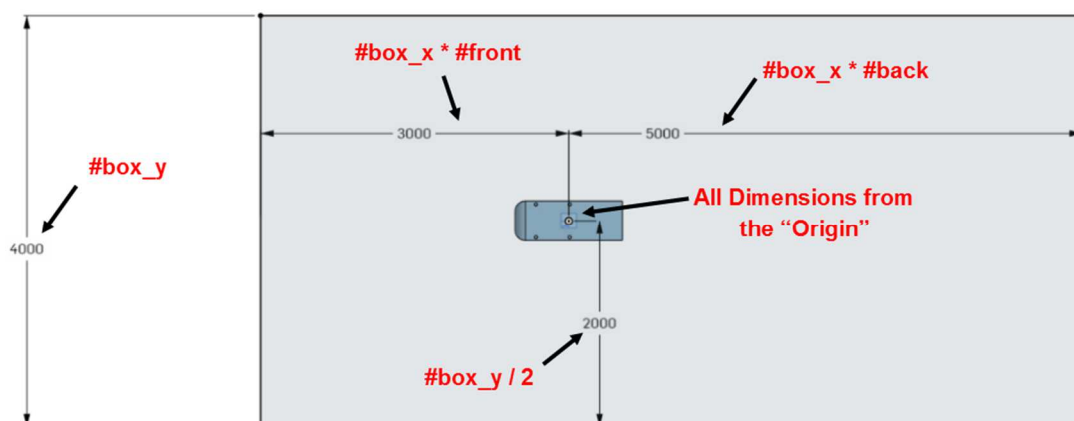

Figure 1.1: Using variables to dimension the rectangle.
- 4) You can dimension the square using the variables created in step 1 of this section. The “box\_x” variable can be multiplied by the “front” and “back” variable to get dimensions of front and back of the enclosure box from the “Origin”. The figure 1.1 below shows the completed sketch.